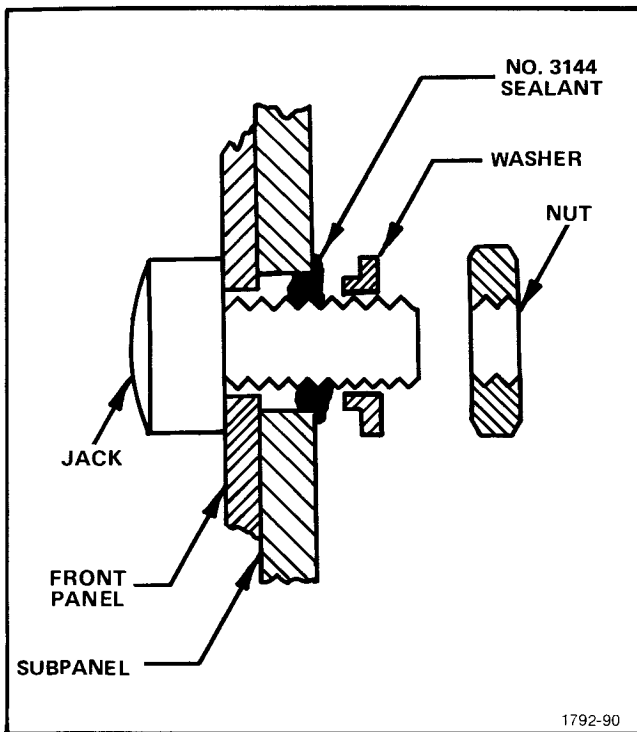

Fig. 5-37. Detail of front panel jacks.
31. Watertight sealing procedures for the Front Panel jacks of the X-Y Output Module, 016-0606-00 (see Fig. 5-37)
3. Form a bead of No. 3144 sealant around the Jack/Subpanel interface as shown in Fig. 5-37.